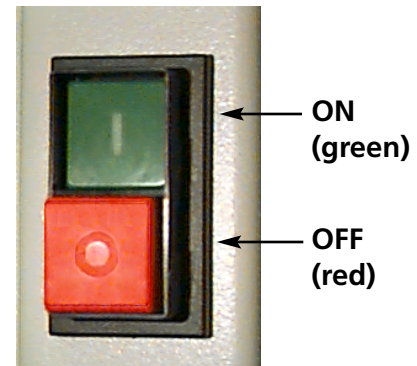

Figure 1-10
1. Figure 1-10 shows the power in the ON position. Turn the power OFF before connecting ANY cables.